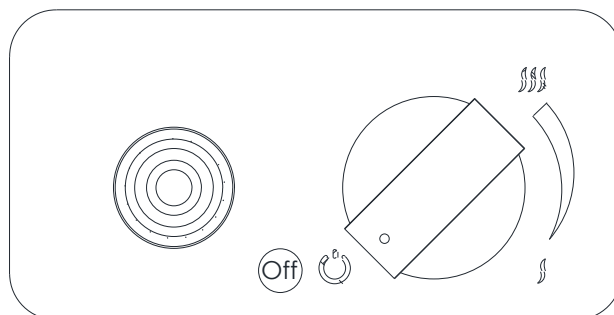

Fig 12 – Turning off the device
- To turn off the device, simultaneously press and turn the knob all the way clockwise (*Fig 12*). The gas supply will be cut and the flame on burner will be turned off.